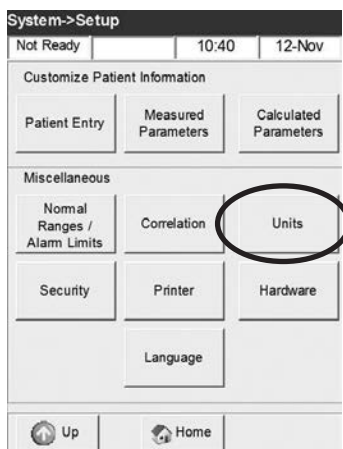

Fig. 3-21 Select Units
2. In the **<System Setup>** menu, press **<Units>** (Fig. 3-21).